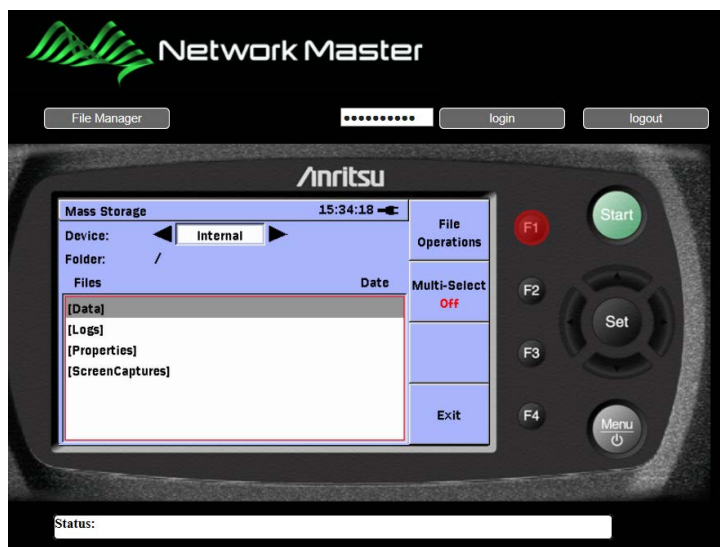

Figure B.2-3 Remote Client (F1 Control Zone)
2. There is an active zone around the image of each of the front panel hard keys (F1, F2, F3, F4, Start, Set, Menu, Up, Down, Left, Right arrows). Move the cursor for the pointing device (mouse) over the image of any of the front panel keys, and the active zone will turn red in color, as shown in Figure B.2-3.